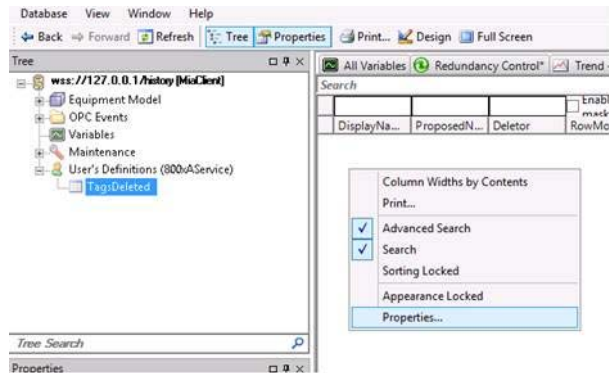

Figure 222. Vrtin Tag Deletion
3. Click on the TagsDeleted table, created in the Step 2. Right click on the table area and select on the **Properties** as shown in Figure 222 and choose the